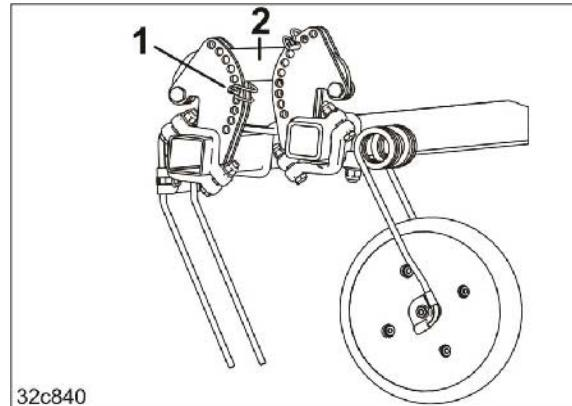

Fig. 2
1. The harrow tines are adjusted by removing the cap plug (Fig. 2/1) below the steering unit (Fig. 2/2), in all segments, in the same borehole.